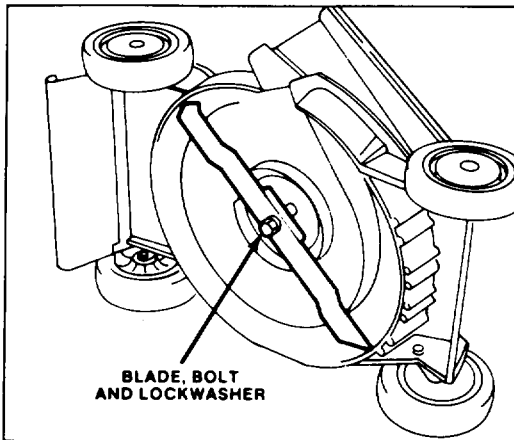

Figure 14
2. Tip mower on its left side (Fig. 14).
3. Tip mower on its left side (Fig. 14).
5. REMOVING BLADE — Grasp end of blade using a rag or thickly padded glove. Remove blade bolt, lockwasher and blade (Fig. 14).